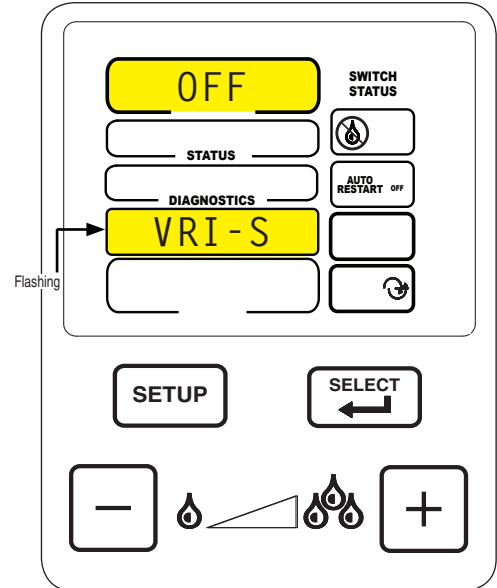

Figure 11-1
1. VRI-S should be flashing. See figure 11-1.